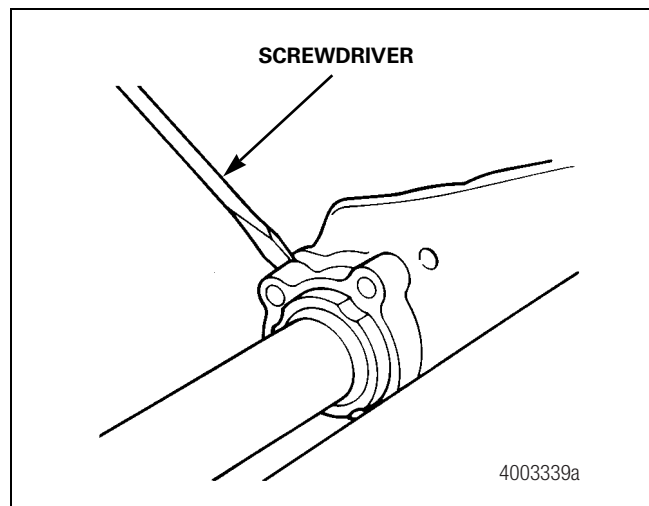

Figure 12.39
3. Pry the bushing out of the spider retainer hole. Figure 12.39.